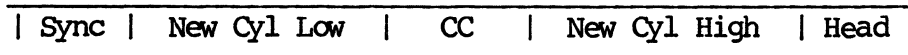

Figure 8-9. Track Remap Header
2. Allocate space for a write track headers buffer. Each header has 0CCH in the second byte. The first, third, and fourth bytes contain the new Head, Cylinder High, and Cylinder Low. Write this information to the defective track with a Write Track Headers command. See Figure 8-9.